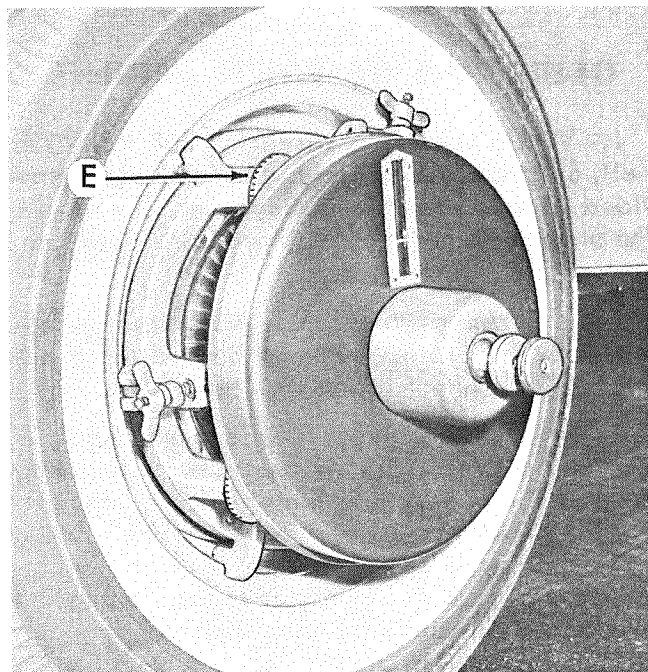

Fig. 3
7. Install balancer unit on adapter, Fig. 3. Unit is centered on adapter and positioned so clamps are next to the hand nuts. Turn unit until clamps snap in place under hand nuts.
8. Tighten the four hand nuts, (E Fig. 3,) finger tight. Caution: Always recheck balancer unit installation, be sure clamps are fully under hand nuts. If unit has been mounted correctly clamps will be centered under hand nuts—all four hand nuts must be firm finger tight.